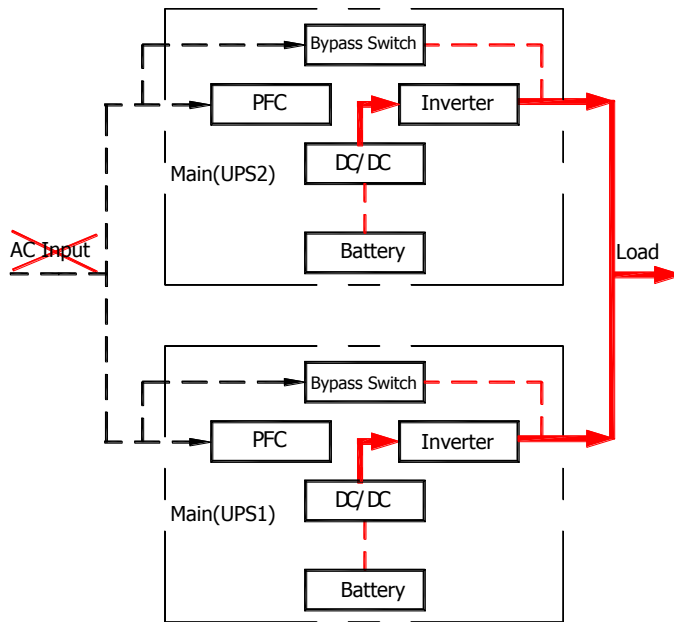

Fig3.2-3 Working mode of utility abnormal
- 2、 Working mode of utility abnormal (solid line is Energy flow of UPS) as shown in Fig.3.2-3.